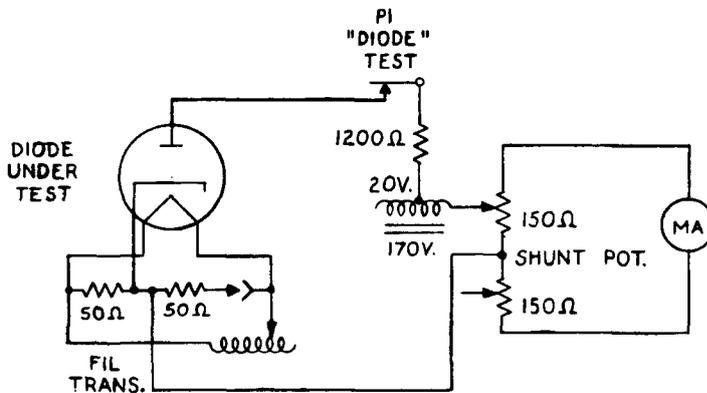

Fig. 4 - Diode Test Circuit
2.23 When testing the diode section of a multi-purpose tube, or small hot cathode diodes, the circuit (Fig. 4) is the same as that described in Paragraph 2.22 except that the a-c potential is decreased from 35 to about 15 volts, and the current limiting resistance is changed to 1200 ohms. Only one plate of the diode is tested at a time. Micromhos meter readings are observed relative to the RECTIFIERS & DIODES OK index mark, readings to the right of the line indicating a satisfactory condition.